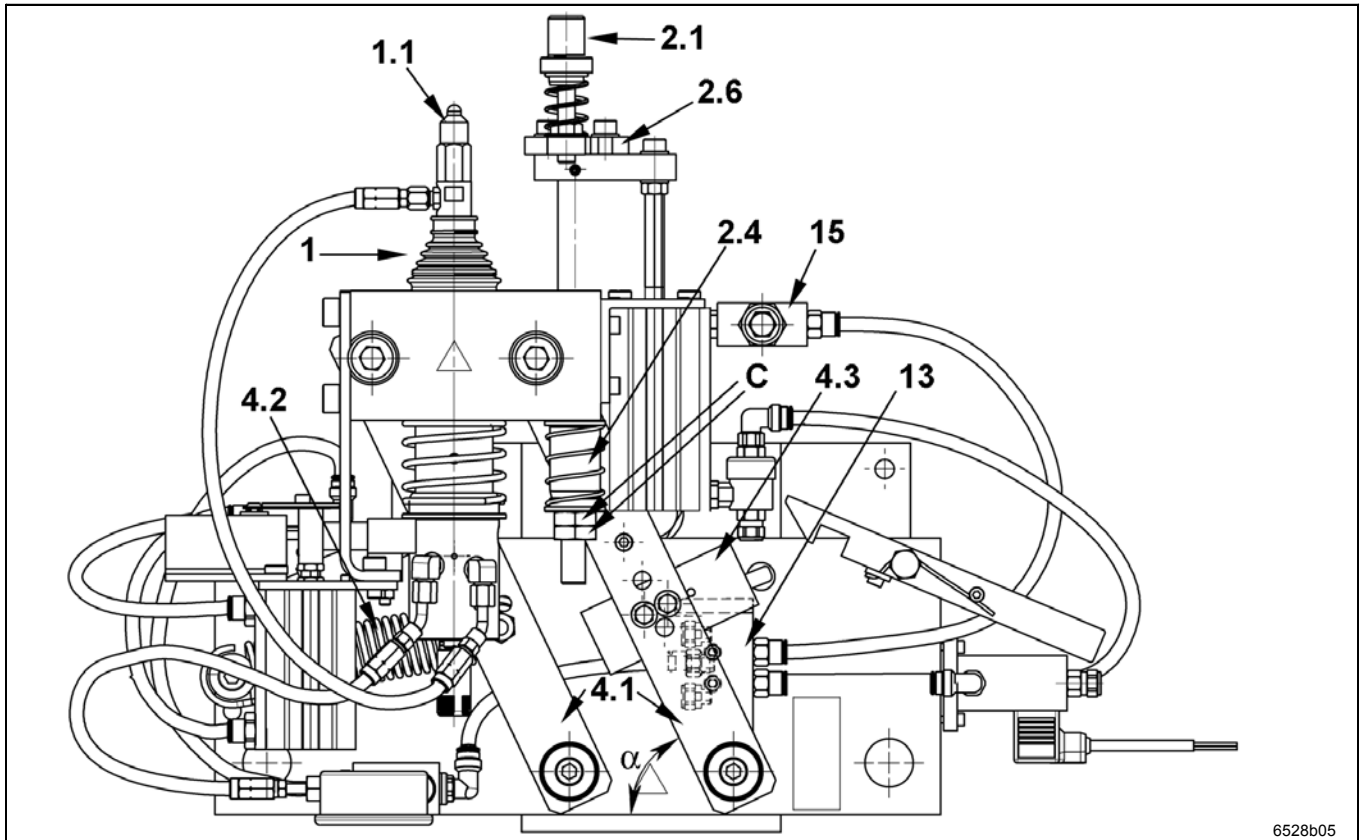

Fig. 7 Adjustment of swiveling distance and reverse travel speed
- if the pick-up rollers (pos. 2.1) do not run against stationary walls
- if the pick-up rollers (pos. 2.1) do not push the chain roller off the nozzle coupler (pos. 1.1).
- Loosen the nuts (see fig. 7, pos. C) on the pick-up guide rod (pos. 2.4¹⁾).
- Move the pick-up stop (pos. 2.5¹⁾) to the end of the pick-up guide rod (pos. 2.4¹⁾) in order to feed the pick-up rollers into the catchment area of the chain rollers. Otherwise, move the pick-up stop further on the pick-up guide rod.